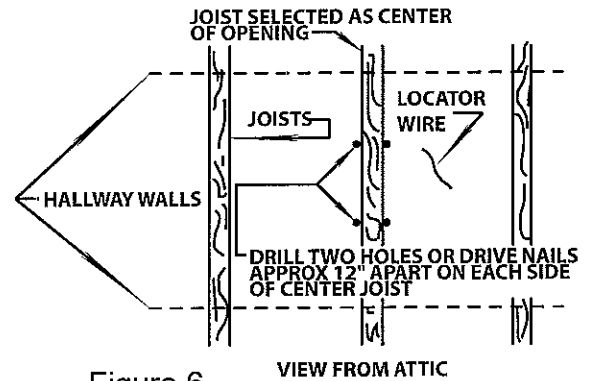

Figure 6
2. After locating the wire in the attic, review the area for obstructions etc. discussed earlier, and for direction of joist run in relation to the hallway (not critical if installed in a room) If the area is suitable, select a joist on which the fan and shutter will center. Remove insulation from the area and save for use around fan installation (See Fig. 6)
3. The location of this center joist must be accurately transferred to the ceiling below. This may be done by pushing two nails down through the ceiling about 12" apart along each side of the joist well within the area to be cut (See Fig. 6).